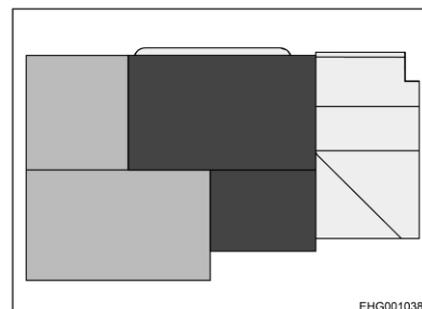

Fig. 107 After the conversion (top view)
- Place additional cushion on the table according to Fig. 107.